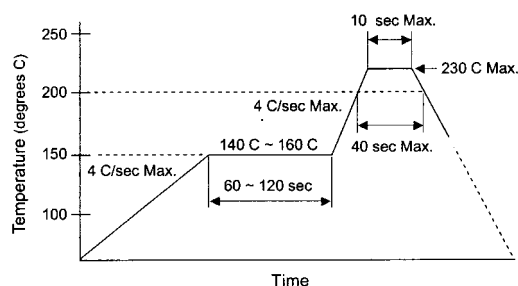

Figure 6. Temperature Profile at the Top Surface of ZHX10x0
- The temperature profile at the top surface of ZHX10x0, shown in Figure 6, is recommended.